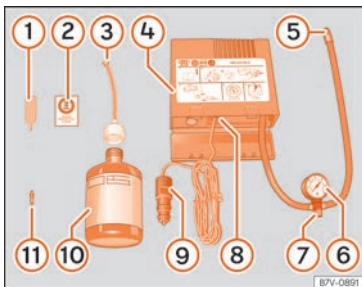

Fig. 58 Standard display: contents of the anti-puncture kit.
- Unscrew the tyre valve cap and insert. Use the »» **Fig. 58 ①** tool to remove the insert. Place it on a clean surface.
- Shake the tyre sealant bottle vigorously »» **Fig. 58 ⑩**.
- Screw the inflator tube »» **Fig. 58 ③** into the sealant bottle. The bottle's seal will break automatically.
- Remove the lid from the filling tube »» **Fig. 58 ③** and screw the open end of the tube into the tyre valve.
- Place the insert back into the tyre valve using the tool »» **Fig. 58 ①**.
- Screw the compressor tyre inflator tube »» **Fig. 58 ⑤** into the tyre valve.
- Check that the air bleed screw is closed »» **Fig. 58 ⑦**.
- Insert the connector »» **Fig. 58 ⑨** into the vehicle's 12-volt socket »» **page 138**.
- Turn the air compressor on with the ON/OFF switch »» **Fig. 58 ⑧**.
- Attach the sticker »» **Fig. 58 ②** to the instrument cluster, within the driver's visual field.